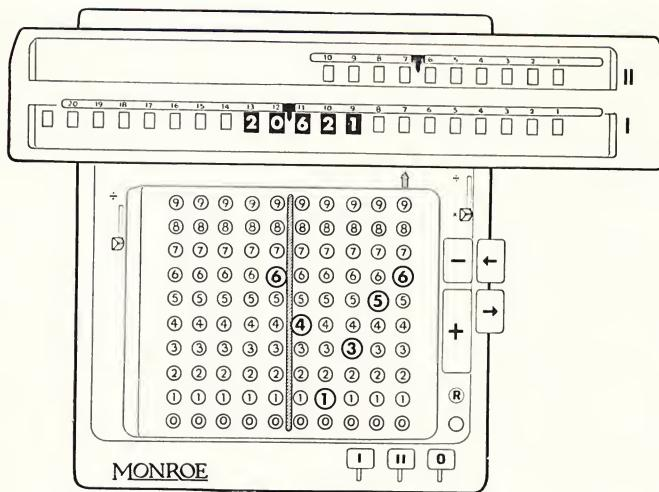

Figure 13
*Step 4*—Clear the keyboard and upper dials with the two right-hand clearance bars. Set 6.41356 on the keyboard. Carriage is already in "7" position ready for the division, as pictured in Figure 13.